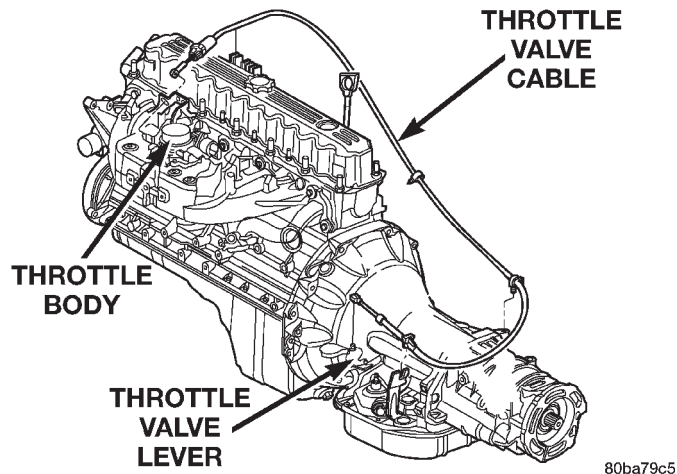

Fig. 257 Throttle Valve Cable
The transmission throttle valve is operated by a cam on the throttle lever. The throttle lever is operated by an adjustable cable (Fig. 257). The cable is attached to an arm mounted on the throttle lever shaft. A retaining clip at the engine-end of the cable is removed to provide for cable adjustment. The retaining clip is then installed back onto the throttle valve cable to lock in the adjustment.
- (1) Turn ignition key to OFF position.
- (2) Remove air cleaner.
- (3) Verify that lever on throttle body is at curb idle position. Then verify that transmission throttle lever (Fig. 257) is also at idle (fully forward) position.
- (4) Slide cable off attachment stud on throttle body lever.
- (5) Compare position of cable end to attachment stud on throttle body lever: